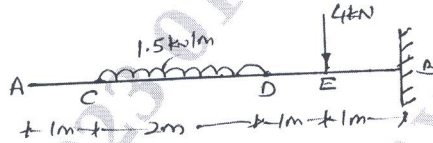

Fig.Q4(b)
b. Draw SFD and BMD for a cantilever beam shown in Fig.Q4(b).